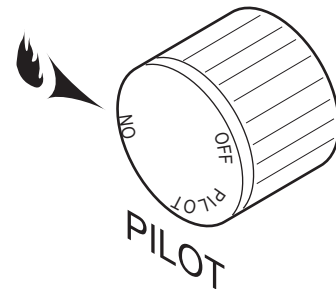

Figure 49 - On Position
Depress and turn the knob counterclockwise ↶ to the “ON” position. *Figure 49*. It will take less than four (4) seconds for the burner to ignite.